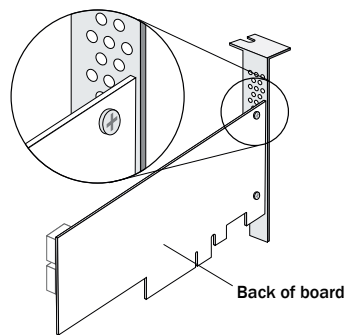
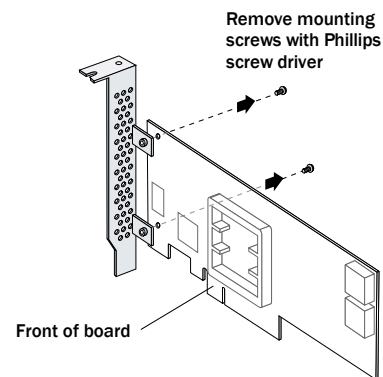

Figure 1
Figure 2
1. Remove the full-height bracket from the adapter board. The full-height bracket is installed on the front side of the adapter, with the mounting screws inserted from the back (see Figure 1). Using a Phillips head screw driver, remove the mounting screws, as shown in Figure 2, then set the screws aside for use in the next step.